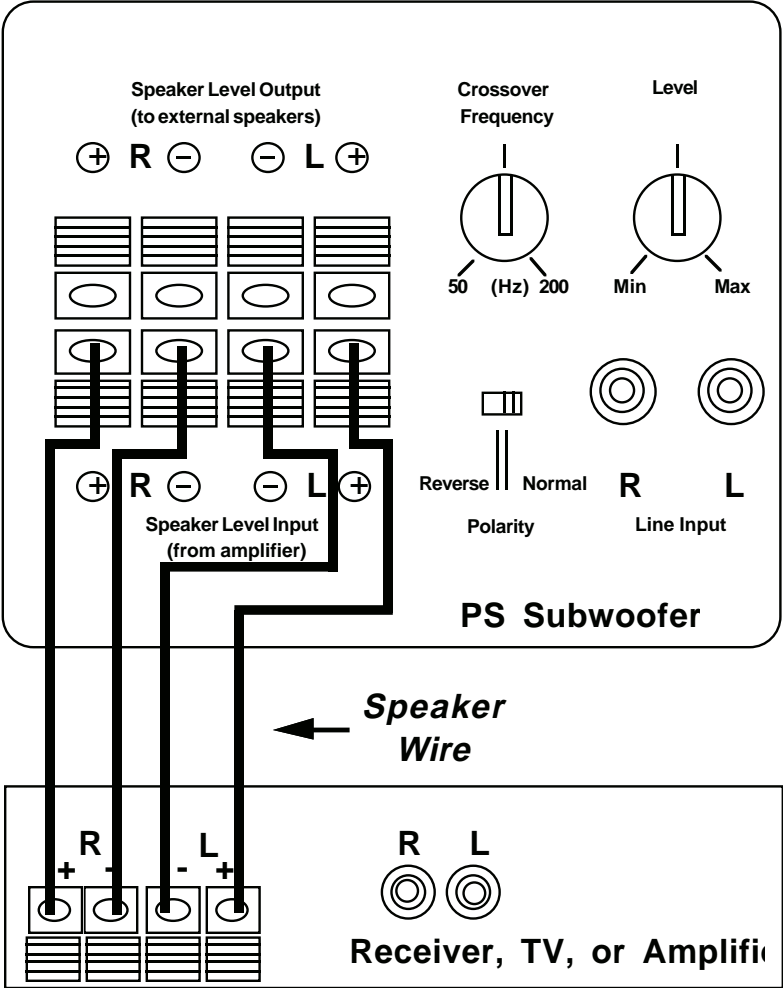

FIG. 2: Speaker Level Input Connecti
- Use these inputs when connecting to the speaker out (speaker mains) of your receiver/T.V./source amplifier. Run speaker wires from the speaker output terminals (usually coded red and black) on the rear of your receiver/T.V./source amplifier to the red and black input terminals labeled "Speaker Level Input (from amplifier)" on the PS subwoofer. (See Fig. 2)